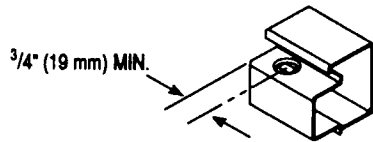

Figure 6
- A. Note  $\frac{3}{4}$ " (19 mm) minimum restriction (Figure 6).